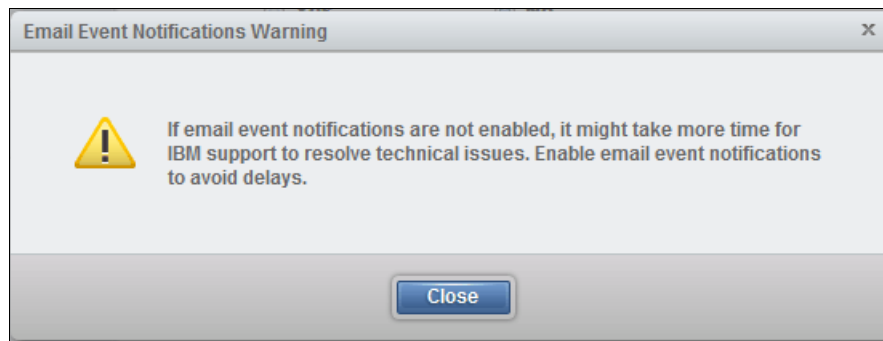

Figure 5-21 No email notifications warning
14. It is highly suggested to set up email notifications. However, they can be configured later. If you choose to say **No** to this option now, a warning displays, as shown in Figure 5-21.